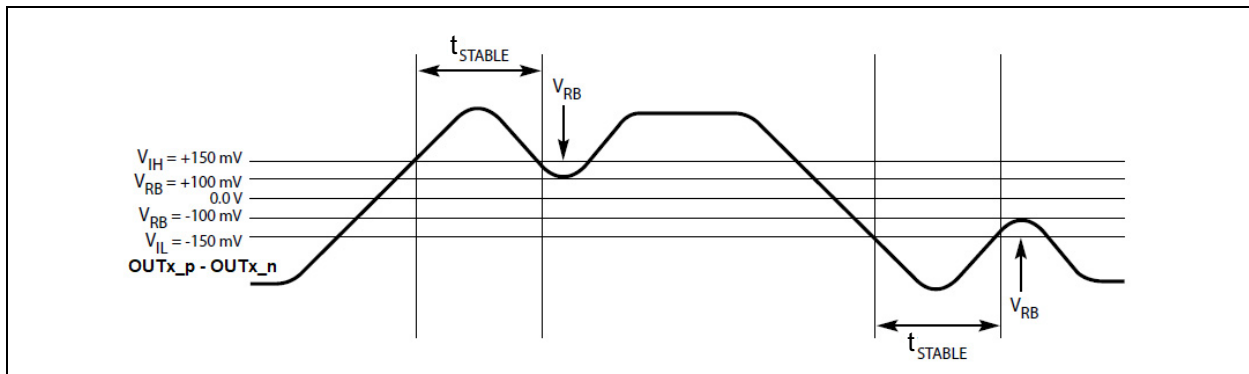

FIGURE 1-6: Differential Measurement Points for Ringback.
- 7: t_{STABLE} is the time the differential clock must maintain a minimum ± 150 mV differential voltage after rising/falling edges before it is allowed to droop back into the $V_{RB} \pm 100$ mV differential range. See Figure 1-6.